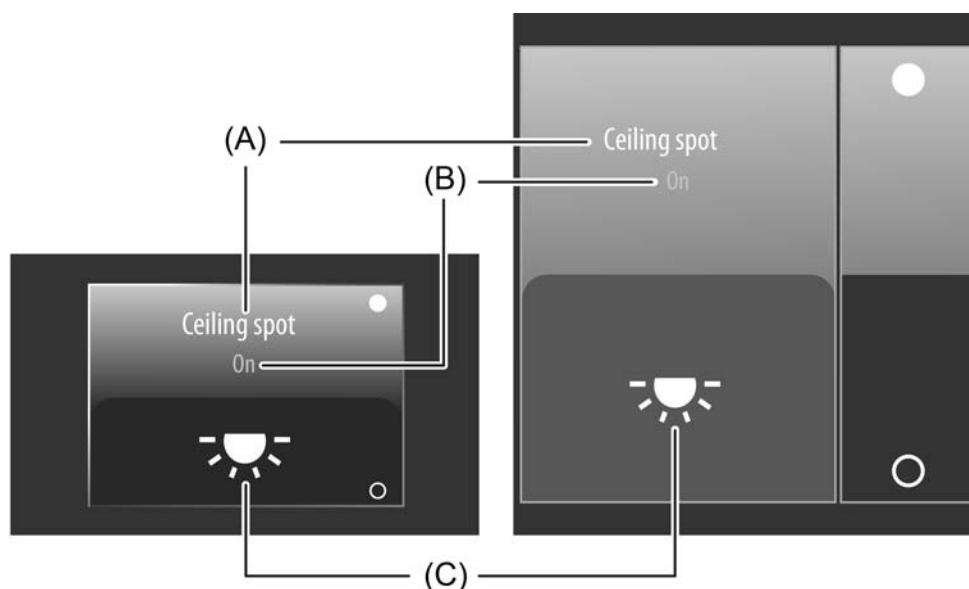

Figure 28: Example of an operating and display element of the channel function "switching"
The display area contains different display elements (figure 28) that are influenced by ETS parameters. A name can be assigned to each KNX channel in the ETS (A). This text name is centred in the display element for display whereby controllable KNX functions are identified for the user (e.g. "ceiling spot"). In addition, a status text (B) can be displayed below the name, which visualises different texts (e.g. "Off" / "On" or "Absent" / "Present") in the display depending on the object value of the switching status feedback ("0" / "1"). After a device reset, the display shows "---" until a feedback object value of the status text is received.